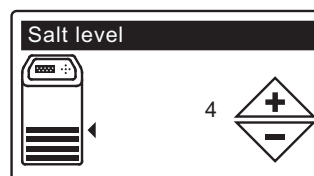

FIG. 20
- 9. SALT LEVEL** Press the UP (▲) or DOWN (▼) buttons to set the salt level (See Figure 20). It should match the lowest number visible on the brinewell above the salt.